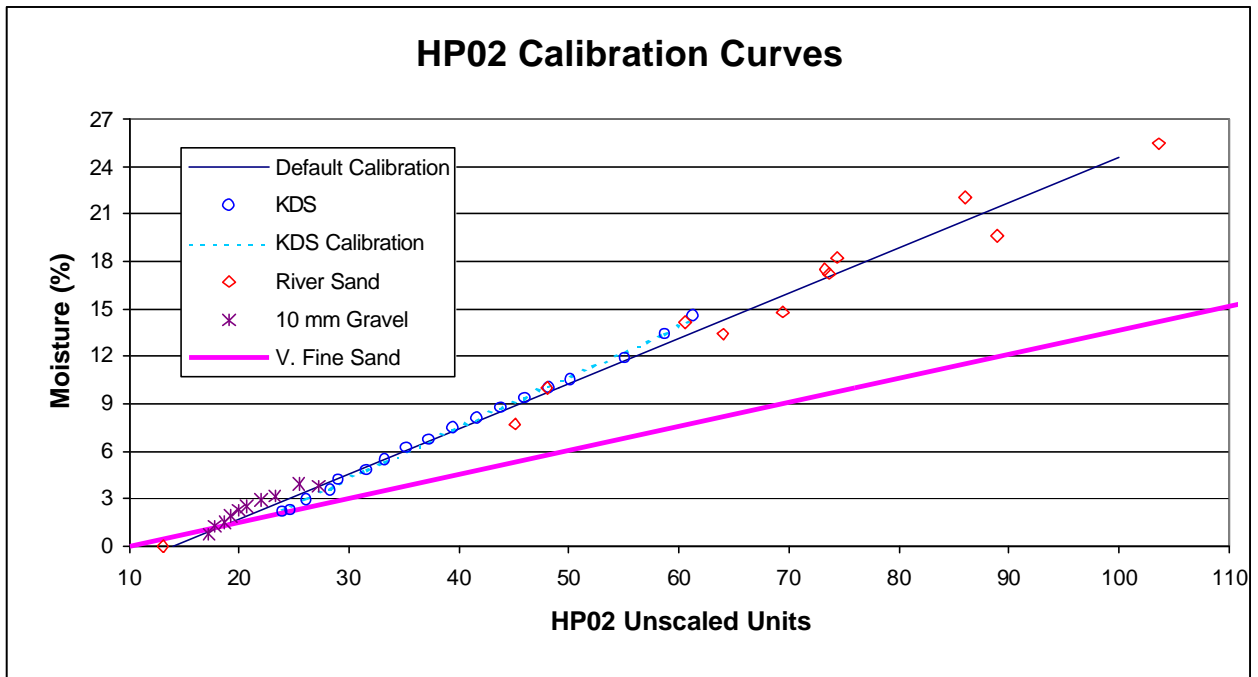

Figure 1 : Comparison of Default Curve with the Calibration Curves for Three Different Aggregates
- A default calibration curve valid for sands & aggregates less than 10mm is described (See Figure 1).
Some customers have found that when measuring very fine materials (< 1mm) they achieve better results using the ‘Fine’ calibration line shown in Figure 1. This calibration is not stored as standard and must be written into the memory of the probe or Hydroview. The procedure is identical to that described above but the parameter values used are different. This section describes the values that should be used if the ‘Fine’ calibration is required.